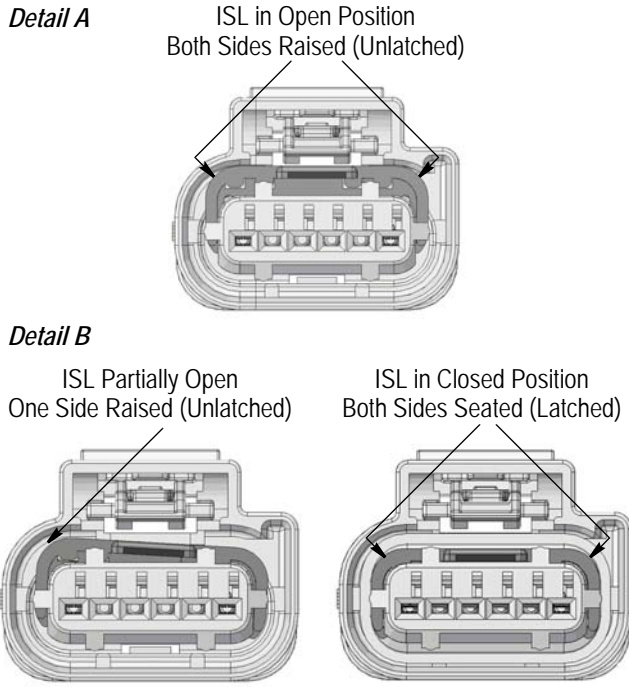

Figure 2
2. Make sure that the connector ISL is in the open (as shipped) position as shown in Figure 2, Detail A. If it is only partially open or in the closed position as shown in Figure 2, Detail B. Refer to Step 1 of Paragraph 4.3.
5. Holding the screwdriver in a straight position, press it straight down to move the ISL to the closed position. Do not rotate the screwdriver against the CPA. *Take care* not to damage the peripheral seal. Ensure that both sides of the ISL are seated. Refer to Figure 2 for visual inspection or use a gage designed to simulate the mating device interface to check that the ISL is in the closed position.